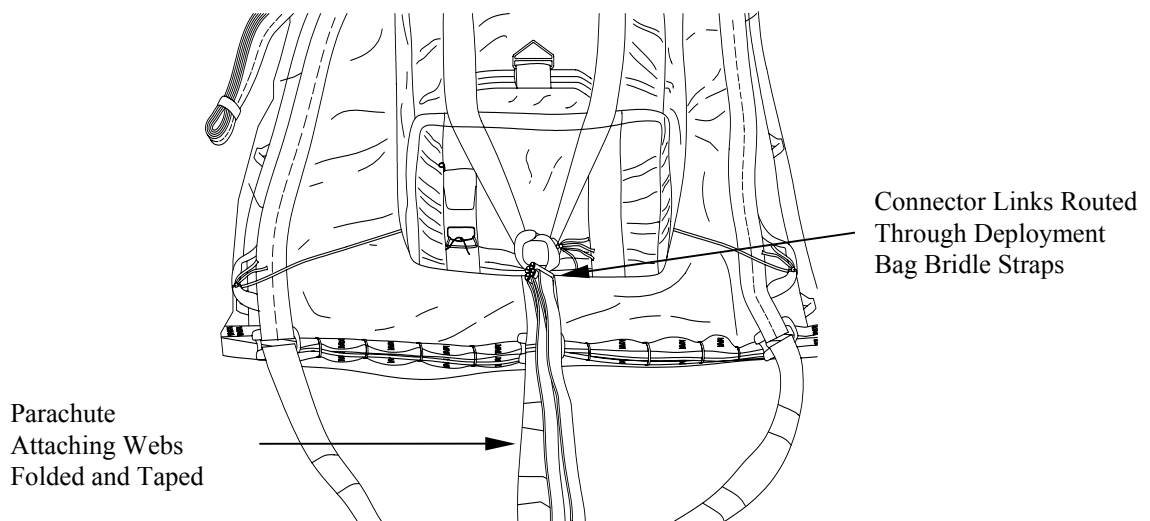

Figure 12. Breakcord and Bridle Attached to the Parachute.
- d. Pass the running ends of each tie through carrying handle of top Extraction Line Panel. Secure each tie to the bottom-carrying handle with alternating half hitches (Figure 12).
- c. Fold the remaining bridle of the parachute-attaching web and tape it to center extraction bridle web (figure 12).